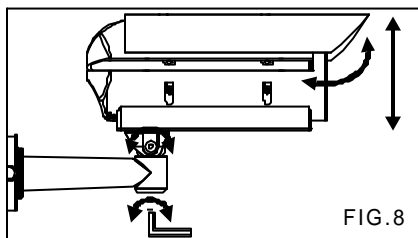

FIG.8
4. Loosen the pan and tilt adjustment screw on the bracket to turn the camera body to the desired angle and then tighten the screw (FIG.8).